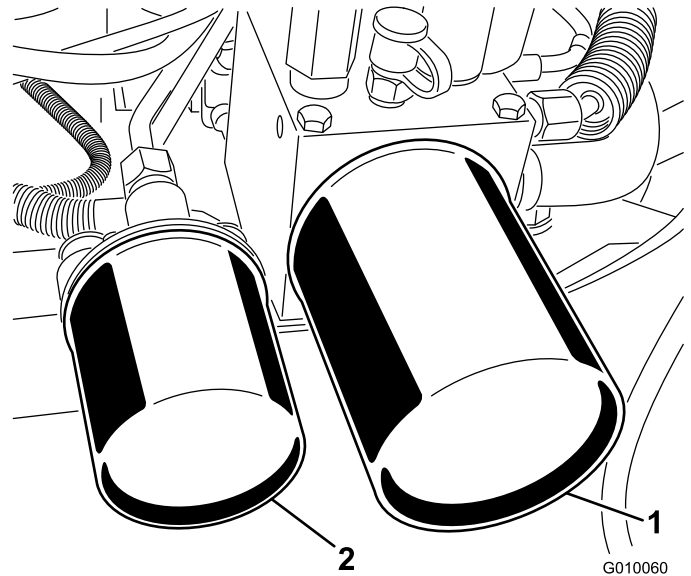

Figure 59
2. Place a drain pan under the filters, remove the old filters, and wipe the filter adapter gasket surface clean (Figure 59).